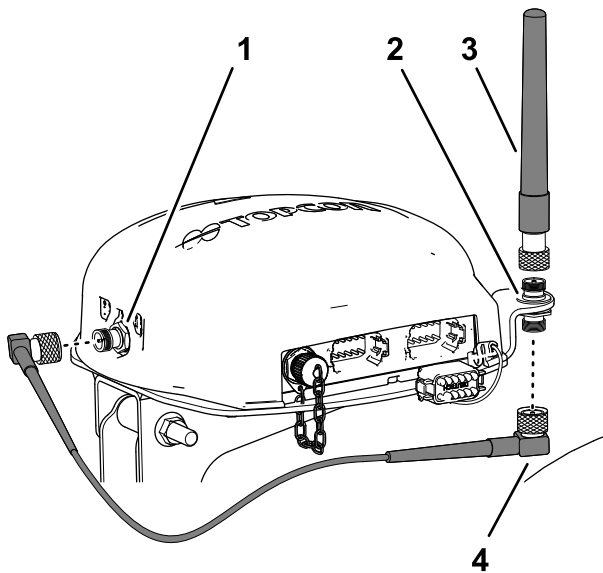

Figure 160
3. Assemble the RTK antenna onto the upper fitting of the coaxial coupler, and tighten the knurl nut of the antenna by hand (Figure 160).
4. Loosely assemble the antenna cable to the lower fitting of the coaxial coupler (Figure 160).
5. Route the cable around the back of the navigation receiver to the coaxial connector of the CDMA or GSM cellular modem (Figure 160).
6. Assemble the antenna cable to coaxial connector of the CDMA or GSM cellular modem (Figure 160).